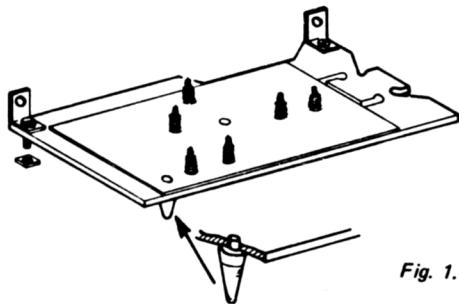

Fig. 1.
Take the mounting plate (49) and the mounting card (64) for the circuit which you wish to build. Hold the mounting plate with the largest cut-out portion facing away from you and the shiny side uppermost (Fig.1). Take the mounting card and push out all the cut-out holes; these holes are then the connecting points of the circuit. Place the mounting card on the plate so that you can read the numbers on the card.